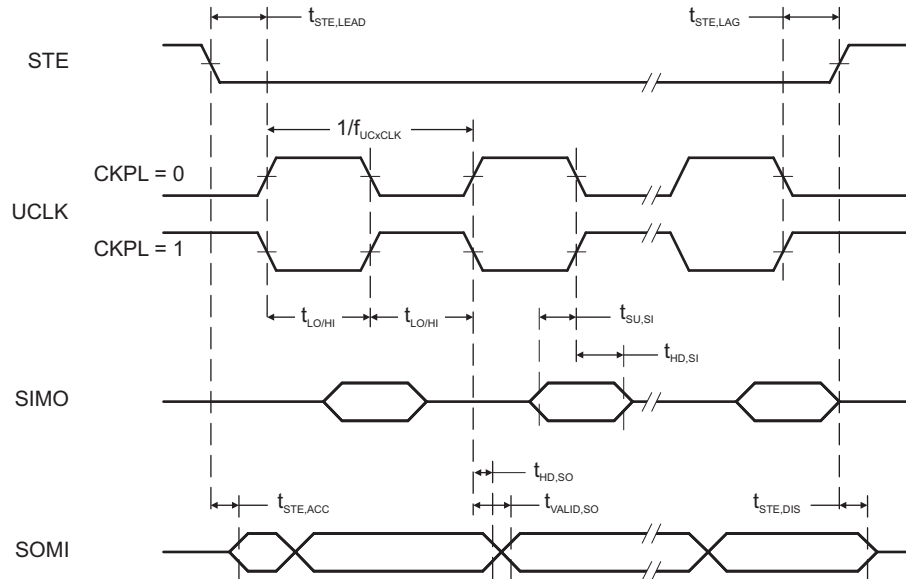
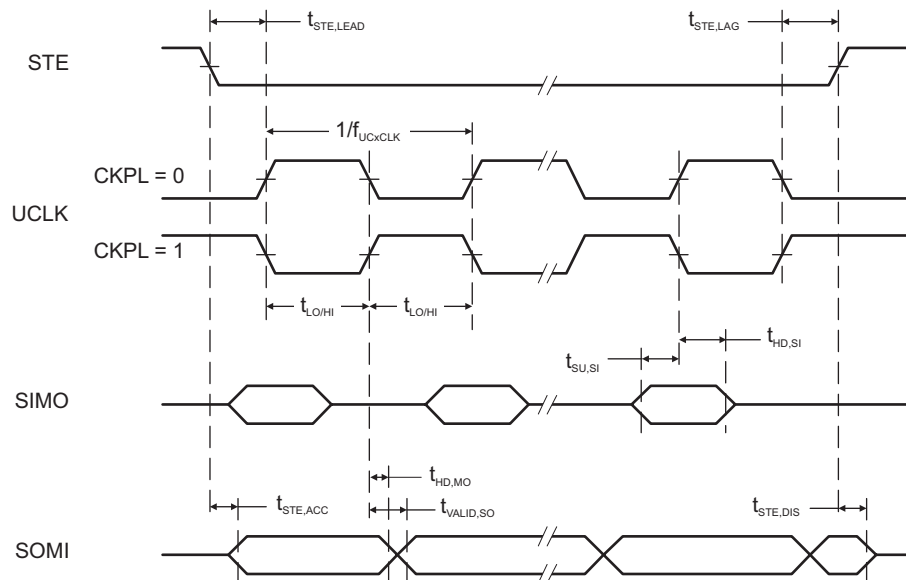

**Figure 5-13. SPI Slave Mode, CKPH = 0**
**Figure 5-14. SPI Slave Mode, CKPH = 1**
(see Figure 5-13 and Figure 5-14)
- (2) Specifies the time to drive the next valid data to the SOMI output after the output changing UCLK clock edge. See the timing diagrams in Figure 5-13 and Figure 5-14.
- (3) Specifies how long data on the SOMI output is valid after the output changing UCLK clock edge. See the timing diagrams in Figure 5-13 and Figure 5-14.